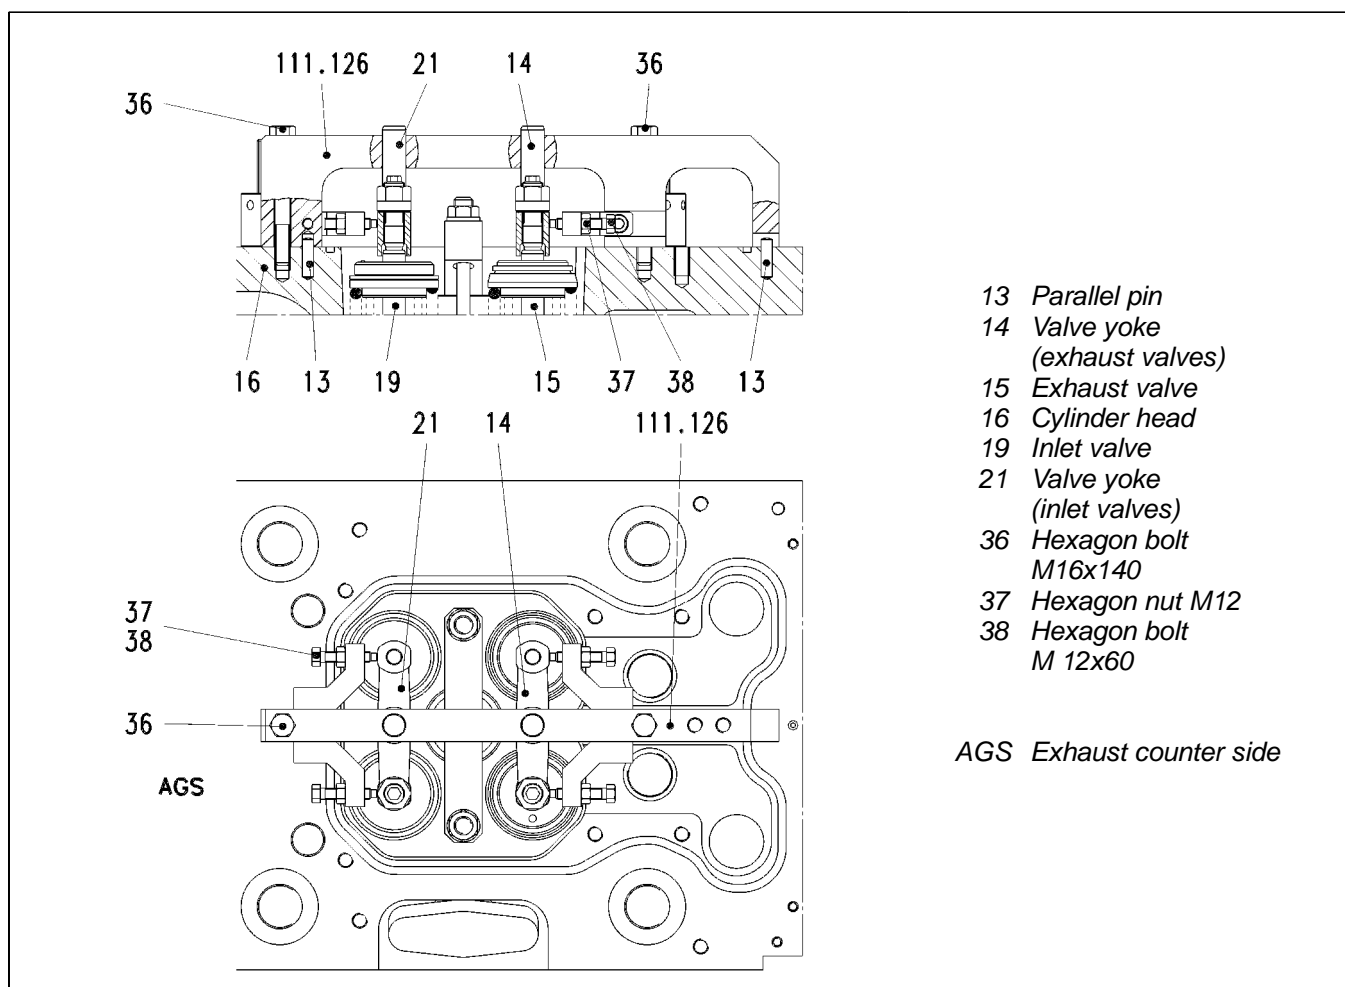

Figure 2. Fixing the valve yokes to loosen/tighten the nuts on the setting screws
3. Attach the setting tool (111.126) to the cylinder head (16) taking care of the centering bores and/or centering groove for parallel pins (13) and valve yokes (14 and 21) - refer to Figure 2.
4. Turn the hexagon bolts (38) until they contact the valve yokes. Secure the hexagon bolts by means of the hexagon nuts (37).
5. Loosen the nuts (17) on the setting screws (18) and screw them off, clean the threads and contact faces.
6. Screw back the setting screws (18).
8. Place the thrust pad (12) on the valve cone, ensuring clearance-free contact. Screw the setting screw down until it also properly contacts the valve cone. There must not be any clearance.
9. Apply MoS₂ lubricant to the thread and contact face of nut (17), screw it in place and tighten it to the specified torque (cf. work card 000.30) holding the setting screws steady.
11. Establish clearance-free contact of the second valve yoke in the same way (refer to items 8 to 10).
12. Loosen the hexagon nuts (37), turn the hexagon bolts (38) back and remove the setting tool.